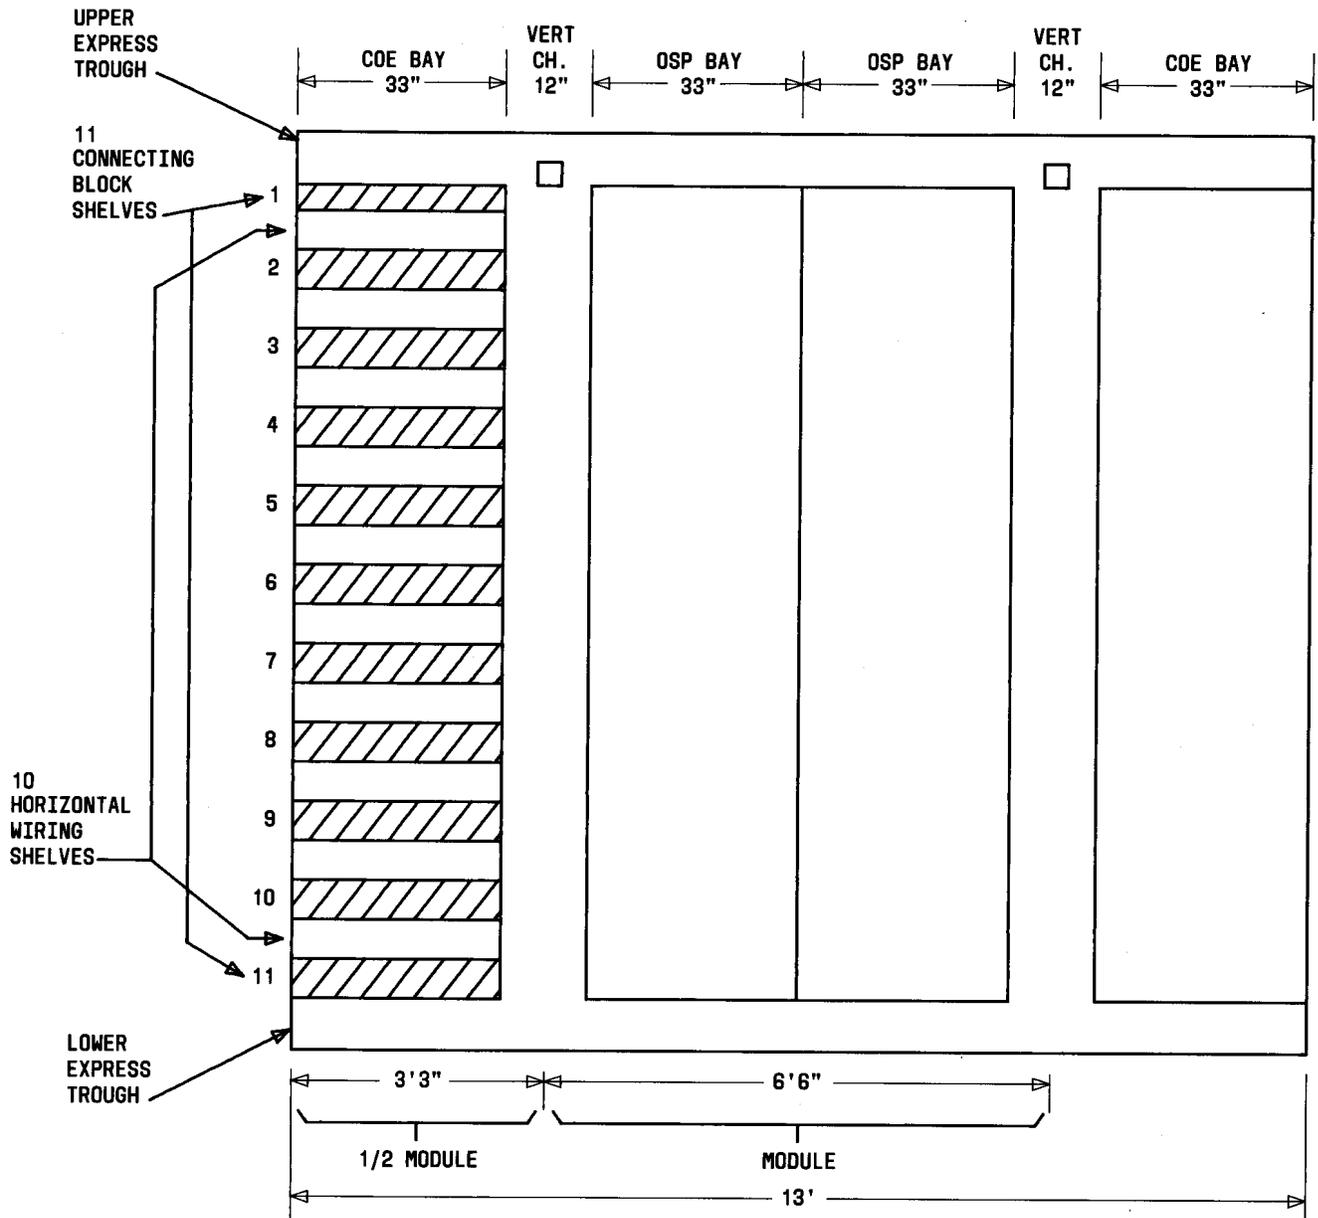

Fig. 1—COSMIC II Framework Group
**3.02** An SMDF or TMDF framework group is 13 feet long, 8 feet 2 inches high (including the superstructure), and 2 feet 8 inches deep and is the equivalent of two modules. Each group (Fig. 1) consists of 4 bays, each 33 inches wide. The two inner bays are outside plant (OSP) bays and the two outer bays are central office equipment (COE) bays. There is a 12 inch wide vertical channel or trough between each COE and OSP bay. Framework groups are joined together in one or more lineups to obtain the desired capacity.
**3.04** For SMDFs, the front of the COE bay has 11 shelves numbered 1 through 11 from top to bottom. Shelves 1 and 11 (Fig. 1) each mount up to five 50-pair connecting blocks. Shelves 2